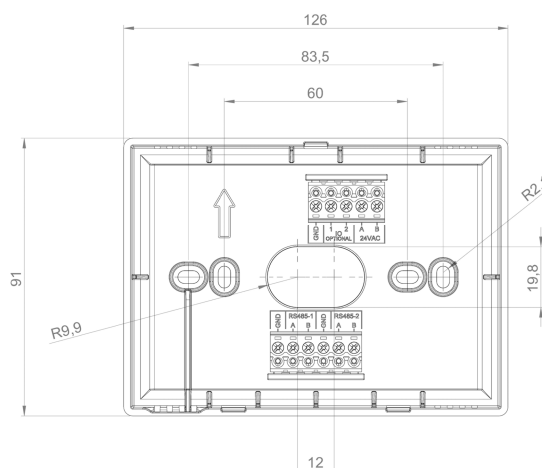

Figure 2 – Rear panel
- Rear panel with terminal blocks (Figure 2)
Using the base plate of the device (Figure 2) as a template, mark the points for the mounting holes on the wall. Be sure to keep the plate perfectly level with the help of a spirit level.